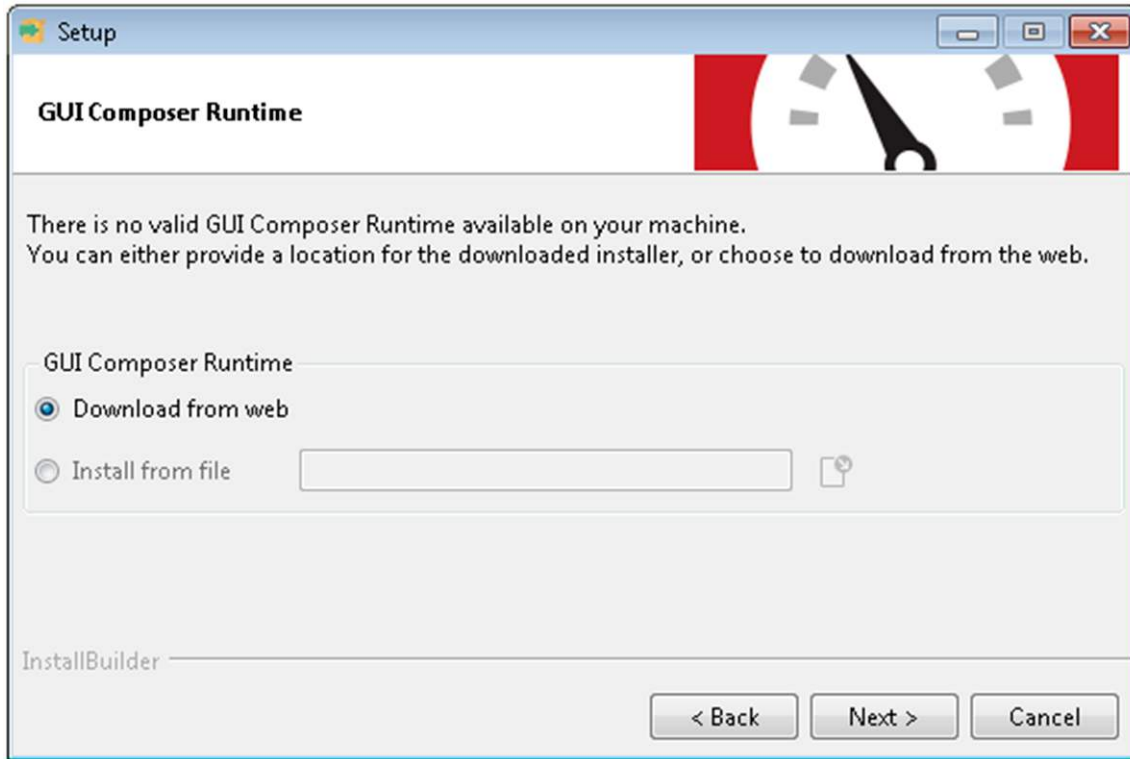

Figure 11. GUI Composer Runtime
Step 6. If the GUI Composer V2 Runtime is not available on the PC, the installer displays the window shown in Figure 11. Either enter a location or download from the web and click the *Next* button.